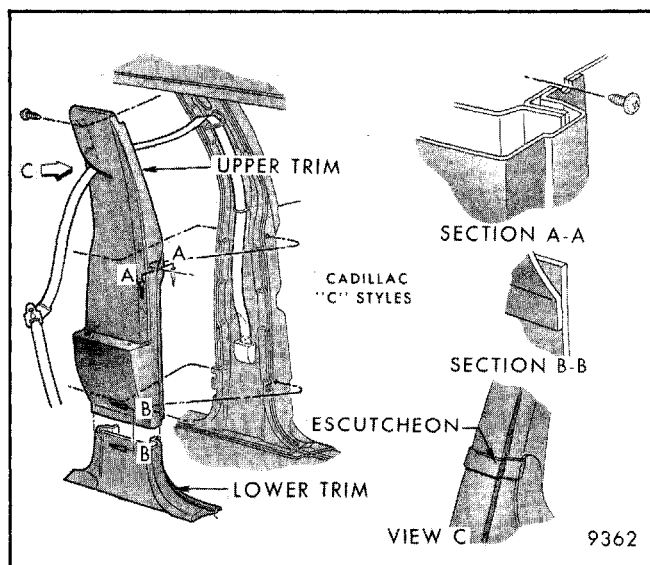

Fig. 5-29 - Center Pillar Trim Attachment - Cadillac C Styles
2. Remove all attaching screws securing upper trim to center pillar. On B,C (less Cadillac) styles, unsnap upper shoulder harness belt loop escutcheon and remove upper loop attaching bolt. On Cadillac C styles, after upper trim removal, carefully uncrimp and remove escutcheon covering webbing slot (view C, Fig. 5-29), remove belt webbing and remove upper trim.